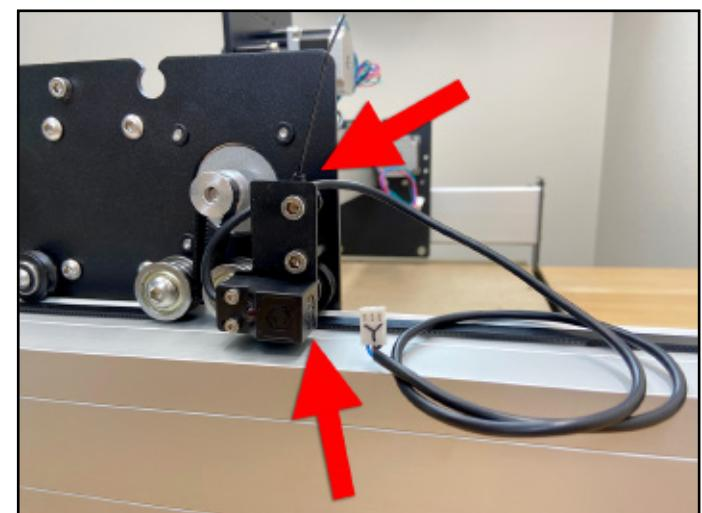

Figure 6-9
5. Use the 4mm hex key and two (2) M5x8mm socket head cap screws to install the mounting plate to the two 30mm standoffs on the **OUTSIDE** of the Y2-rail, with the switch to the outside of the plate and facing the rear. See **Figure 6-9**.
6. Use one (1) cable tie to secure the proximity switch cable to the upper standoff. See **Figure 6-9**.
7. Label the Y-Axis proximity switch cable connector with a "Y" as shown in **Figure 6-9**.